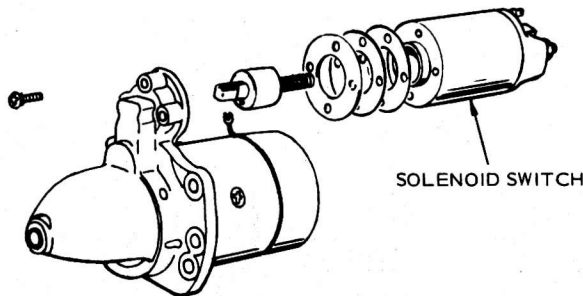

FIGURE 40. SOLENOID SWITCH REMOVAL
1. Loosen the M terminal nut on the solenoid switch and remove the connector to the starter assembly. Then unscrew attaching screws and remove the solenoid switch (Figure 40).